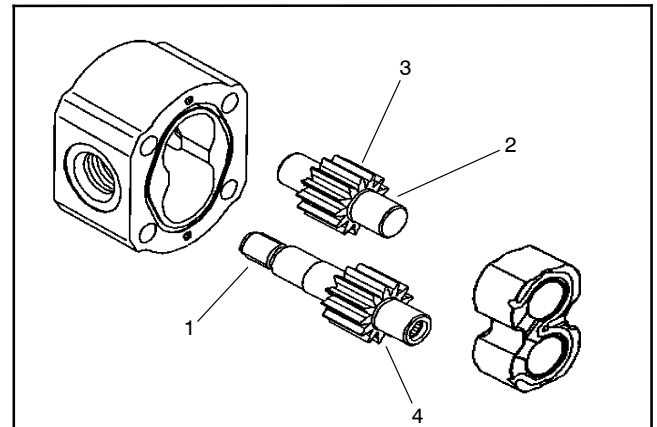

Figure 88
3. Inspect drive gears and idler gears for the following (Fig. 88):